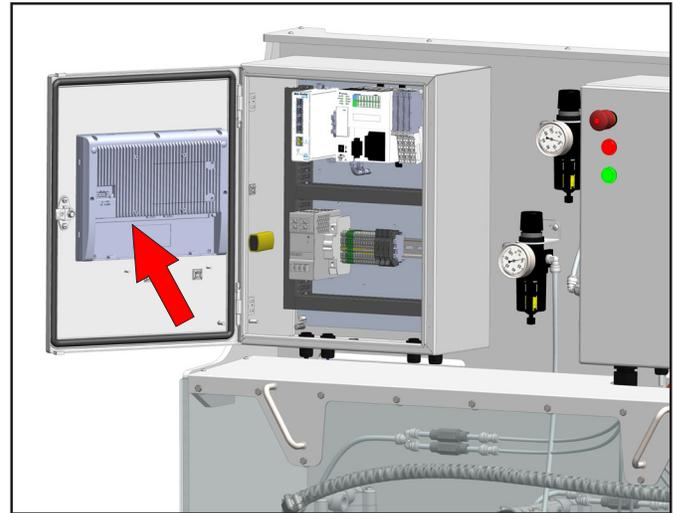

Figure 14.1: USB port location on interior side of screen panel
1. Open the Control Panel and insert a USB drive into the back of the screen panel [Figure 14.1].
1. Identify the root cause of the alarm based on the status message shown [Figure 14.1].